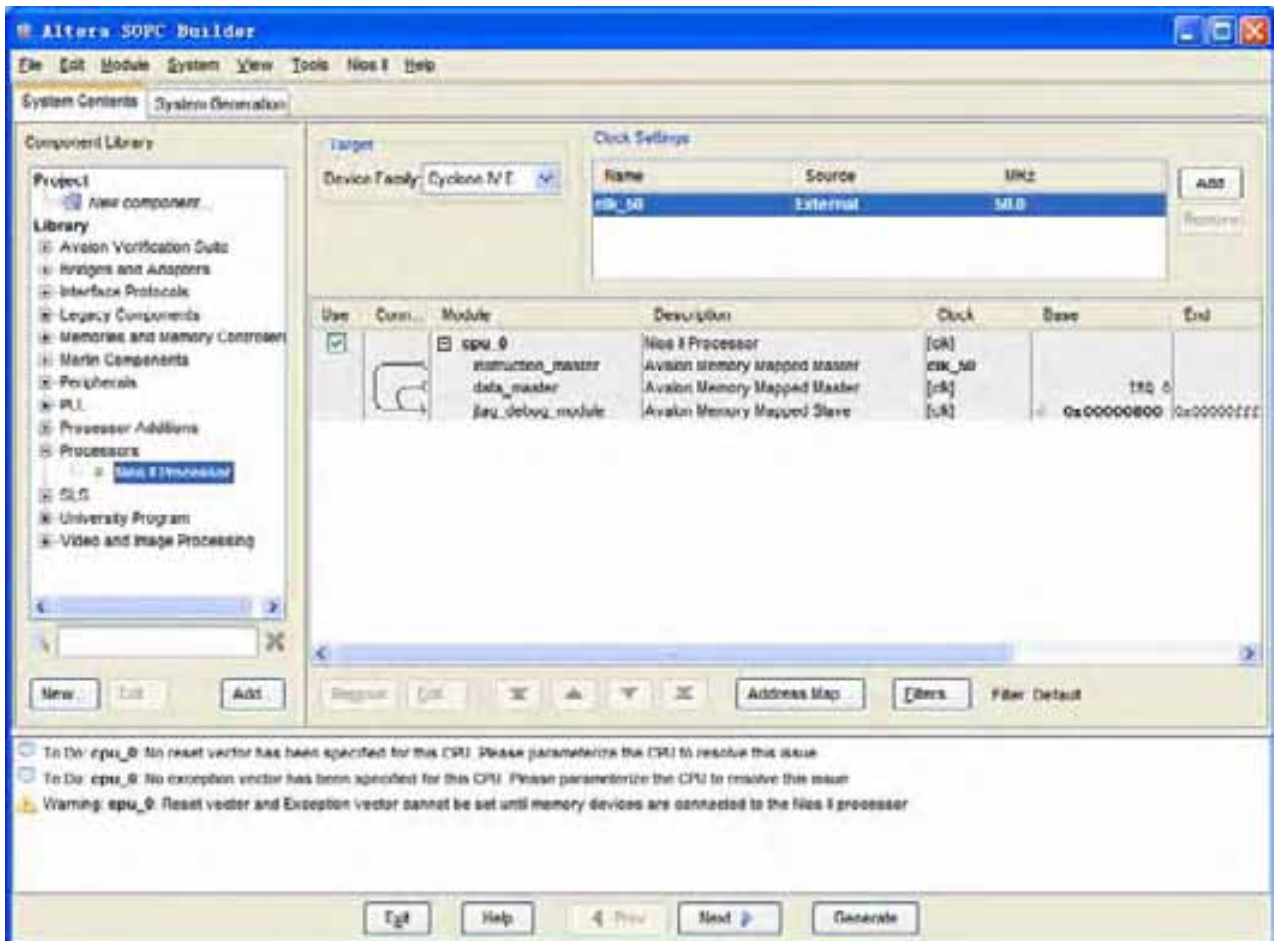

Figure 7-16 Add Nios II CPU completely
- Click **Finish** to return to main window as shown in Figure 7-16.